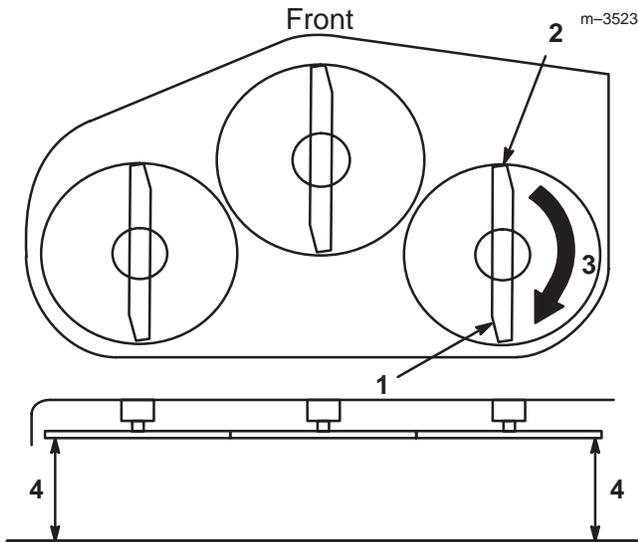
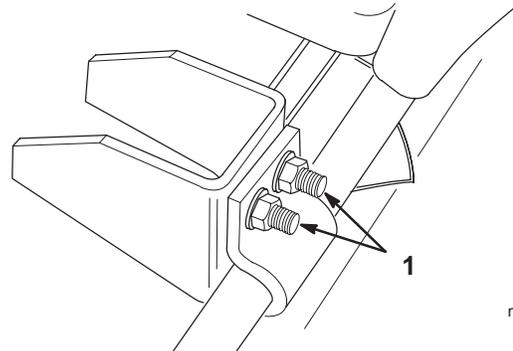

Figure 15
Figure 17
2. Carefully rotate one of the blades so it is facing front and rear (Fig. 15).
3. Measure the distance from the front tip of the blade (Fig. 15) to the flat surface. Then carefully rotate the blade tip until it is in the rear position. When the blade tip is in the front position, it should be 1/8” (3 mm) lower than when it is in the rear position.
Equalize side-to-side cut by adjusting the two carriage bolts (Fig. 17) on the mower. Check height of blade at outside blade tips as shown (Fig. 15).
5. Check the slope of one of the blades (Fig. 15).